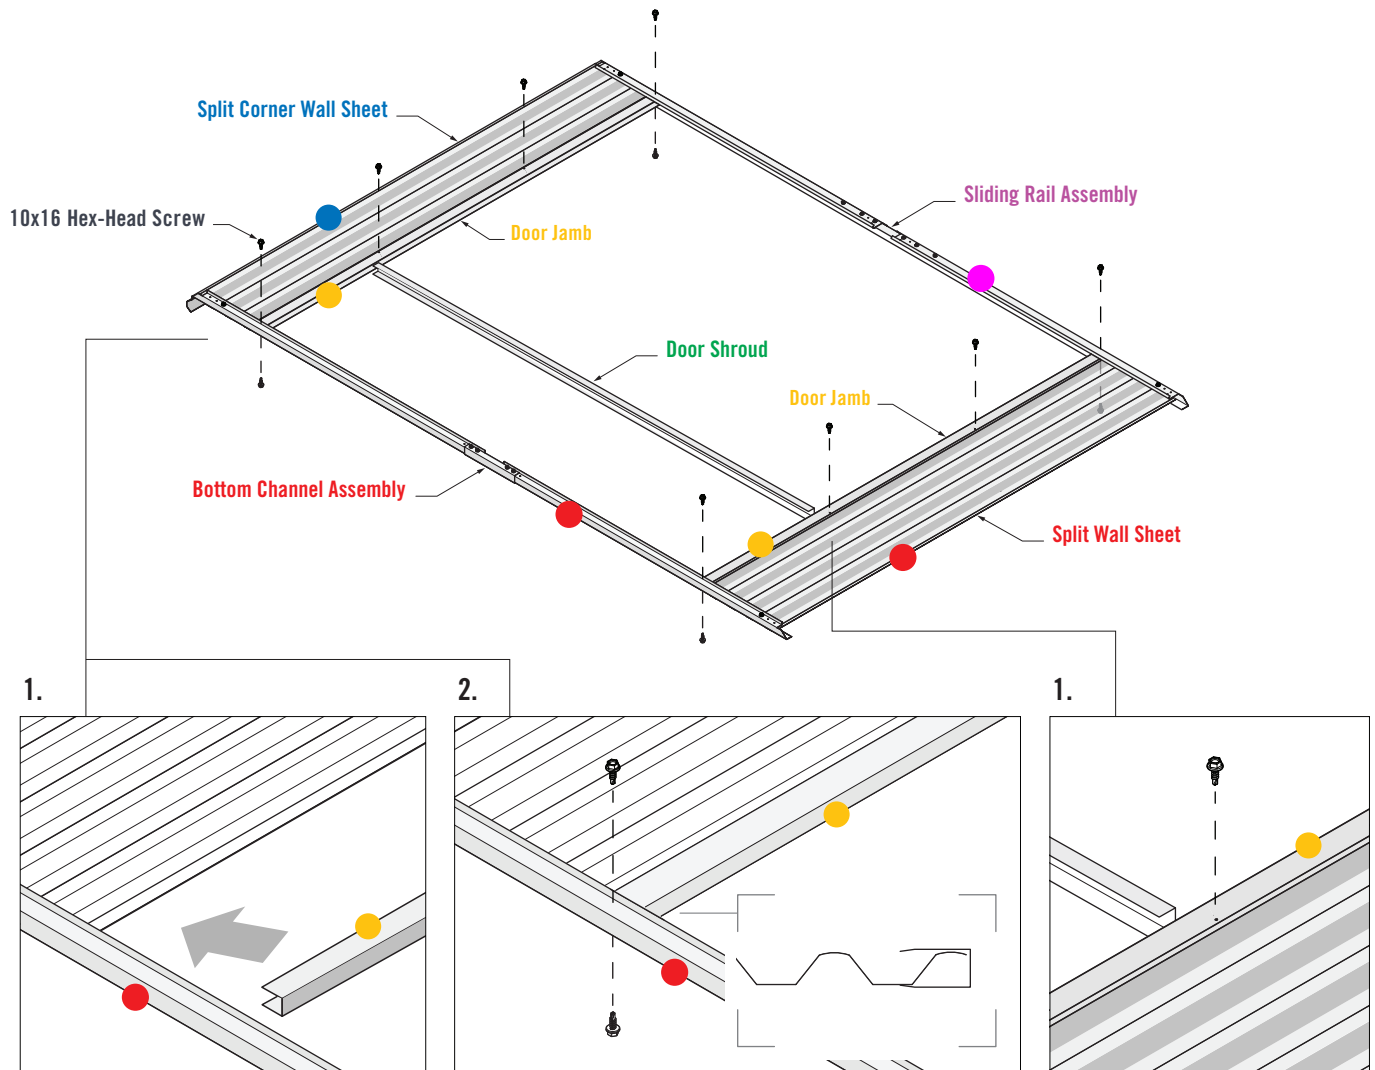

FIGURE 5.3
1. Fit the **Door Jambs** into the **Bottom Channel Assembly** and **Sliding Rail Assembly**. Position the **Door Jambs** over the Wall Sheets. Set the correct spacing of the **Door Jambs** using the **Door Shroud** as a guide. Fasten both **Door Jambs** to the Channel Assemblies with eight 10x16 Hex-Head Screws (Figure 5.3).
2. Fasten four 10x16 Hex-Head Screws through pilot holes of the **Door Jambs** and into to the Wall Sheets (Figure 5.3).